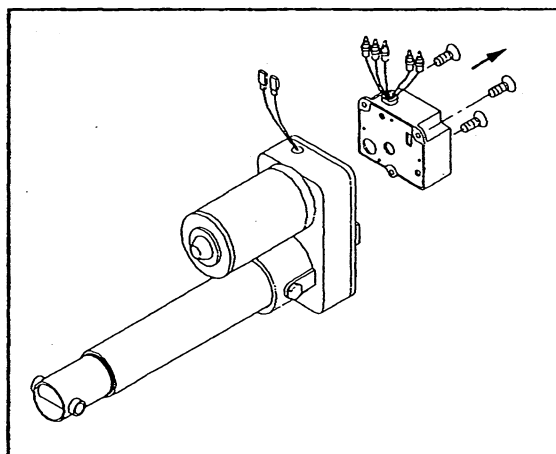

Fig.8-3
4. Remove the VR from the ELEVATOR by unscrewing (see fig. 8-3).